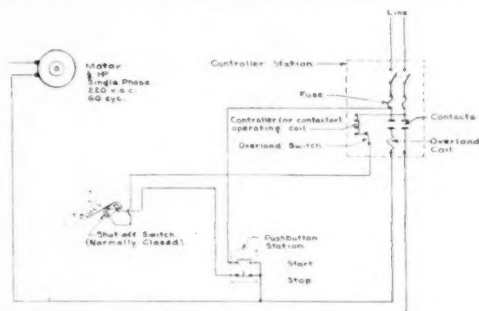

Fig. 2 Wiring diagram for conveyor motor and controls
The automatic shutoff device employed consists of three parts: (1) a gap in the steel conveyor trough lining to permit the grain to flow out of the trough before reaching the end of the conveyor, (2) a divided duct carrying grain to the feed hopper in the milking room, and (3) the shutoff switch. The principle of operation is as follows: The operator starts the conveyor motor by pressing the start push button (See wiring diagram, Fig. 2). The screw conveyor then discharges the ground grain into side A of the divided duct (Fig. 3). The grain slides down the duct into the feed hopper in the milking room. When the ground grain builds up and blocks the opening of the duct into the feed hopper, the duct fills up until the ground grain completely fills side A. The grain then spills
In referring to the wiring diagram (Fig. 2), it can be seen that the shutoff switch is in series with the manual stop button so that either switch can shut off the motor. Once the